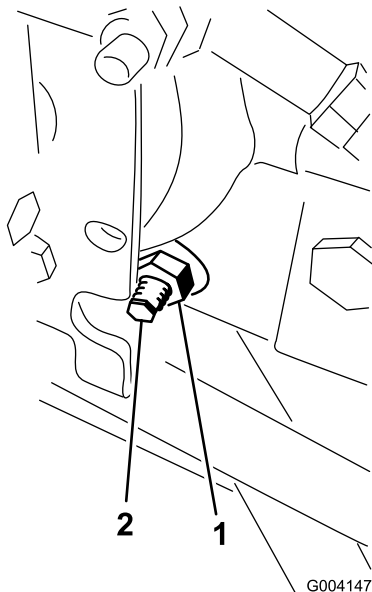

Figure 76
3. On the right side of the hydrostat, loosen the locknut on the traction-adjustment cam (Figure 76).